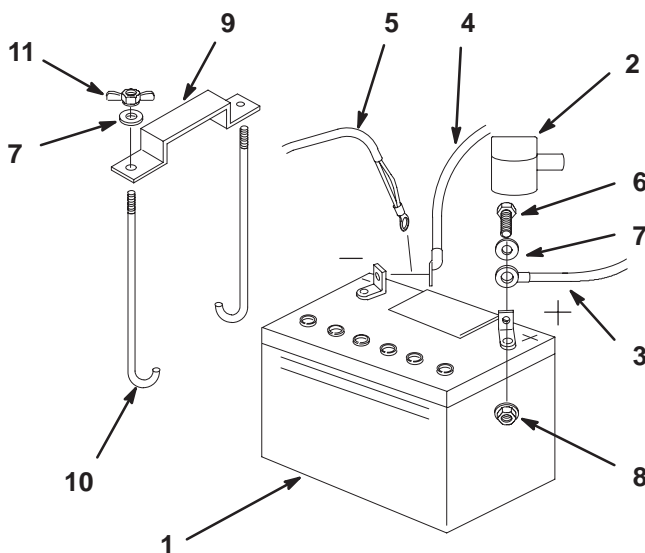

Figure 55
6. Secure battery with J-bolts, hold down clamp and 2 washers (1/4 in.), and 2 wing nuts (1/4 in.) (Fig. 55).
1. Position battery in tray with terminal posts toward the engine (Fig. 55).
4. Secure cables with 2 bolts (1/4 x 3/4 in.), 2 washers (1/4 in.), and 2 locknuts (1/4 in.) (Fig. 55).
3. First disconnect the negative battery cable and ground wire from the negative (–) battery terminal (Fig. 55).
4. Slide the red terminal boot off the positive (red) battery terminal. Then remove positive (red) battery cable (Fig. 55).
5. Remove both wing nuts (1/4 in.) securing the battery clamp (Fig. 55).